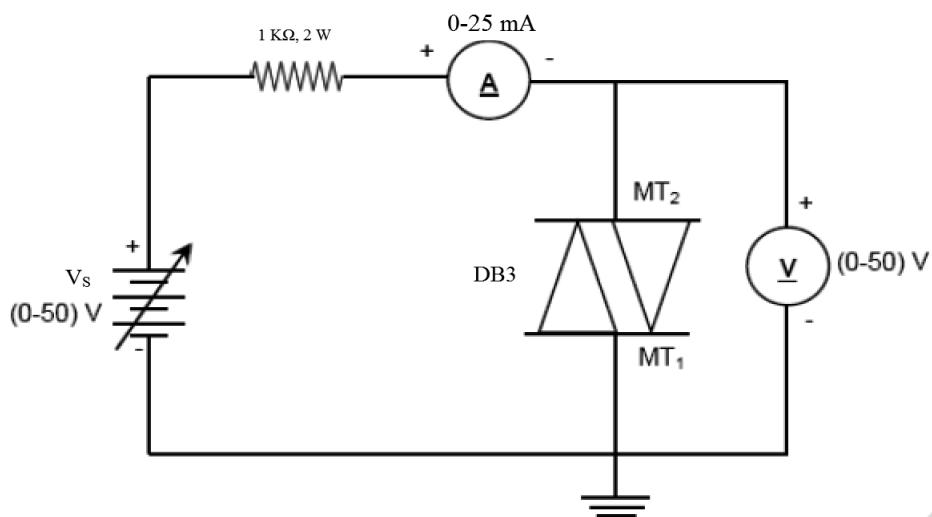

Fig. 3.1 Circuit diagram of V-I characteristics of DIAC
1. Make the connection as per circuit diagram in Fig. 3.1.